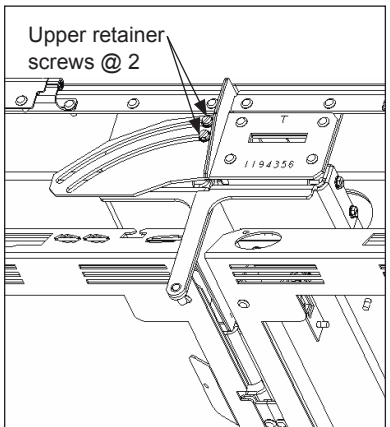
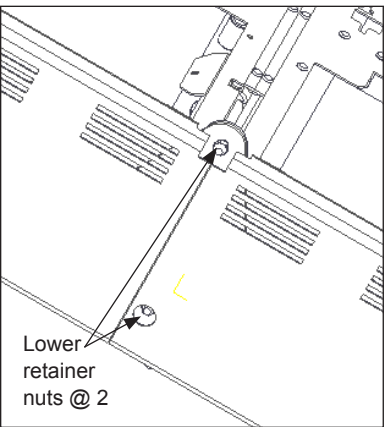

Figure 18: Loosening Upper Retainer Hardware
Figure 19: Loosening Lower Retainer Hardware
2. Loosen the retainer nuts and screws from the upper and lower support brackets and release the latches holding the wing to the shell. Refer to **Figure 18** and **Figure 19**. The wing section is now free to rotate.